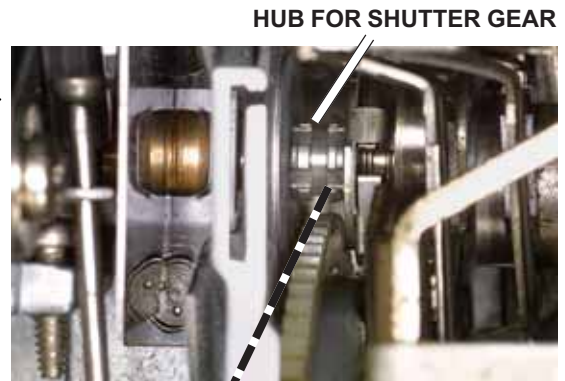

FIG. D6 Unplug the lead of the power cord from the switch.
5. The other lead of the power cord connects to the switch, Fig. D6. Note the position of the power-cord lead. The power-cord lead connects to the port labeled "L." But the "L" port may be in the lower right-hand corner as in Fig. D6 or in
the upper left-hand corner. Insert your curved tweezers next to the power-cord lead as shown in Fig. D6. Then pull the power-cord lead out of the switch port.